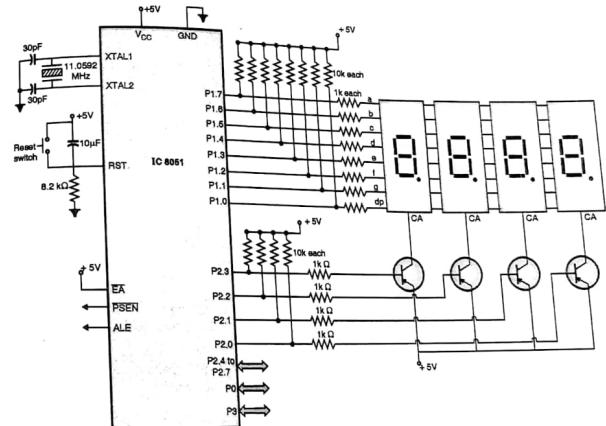

Fig. 9.3.5 : Interfacing multiple SSDs
- In this case, no other device can be interfaced to 8051. Hence we multiplex the SSDs, as shown in the Fig. 9.3.5.